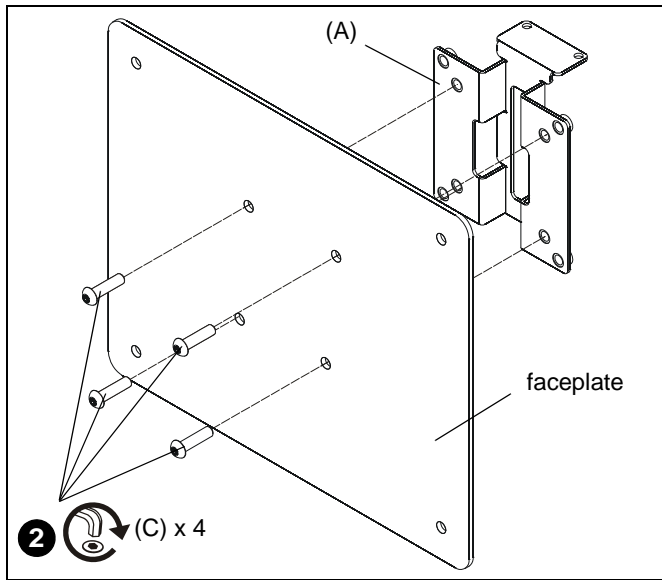

Figure 1
1. Install four M10 x 30mm button head cap screws (C) through display faceplate holes and corresponding adapter bracket (A) holes. (See Figure 1)